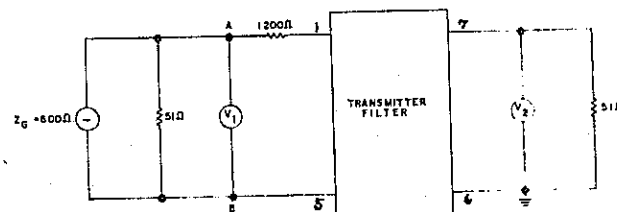

Figure 3 - Circuit for Testing Transmitter Filter
- B. Using a signal generator whose internal impedance is 600 ohms, connect transmitter output filter into the circuit shown in Figure 3. Be sure that carbon resistors only are used, as the coils in wirewound resistors introduce an inductive voltage and the readings will be incorrect.